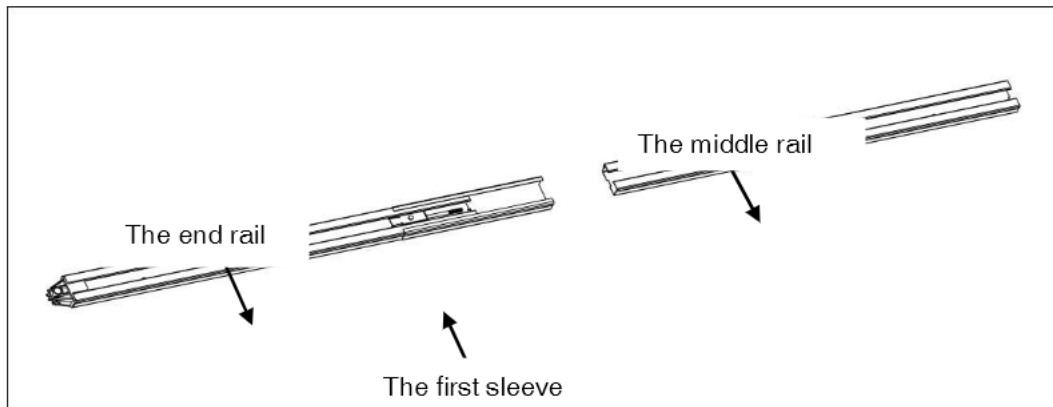

Fig. 5
1. As Fig.5, slide the end rail into the 1st sleeve, slide the middle rail into the 1st sleeve;